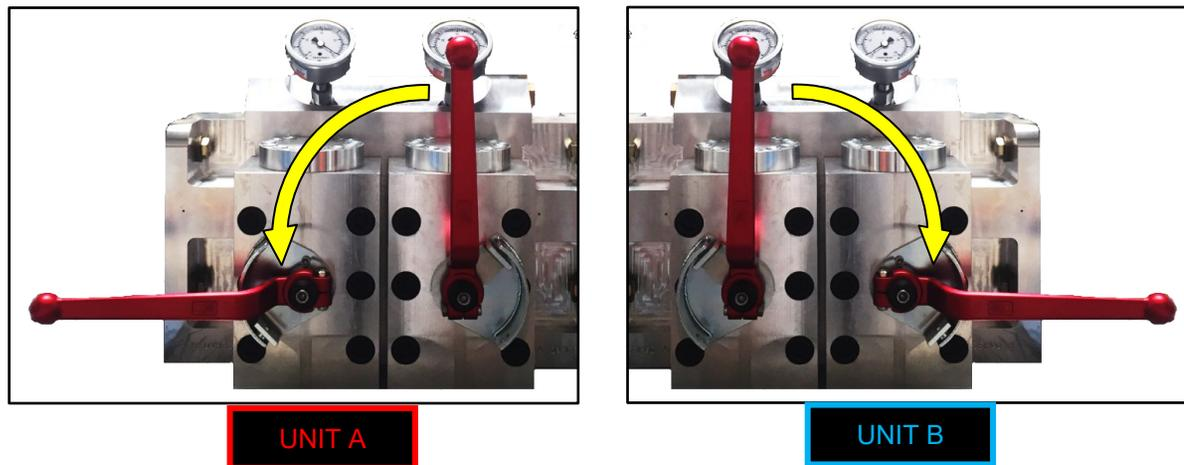

Figure 3-12. VariStroke Isolation Valves in Horizontal Position
9. Adjust the valve locking bracket. Set valve crank in the horizontal position (Figure 3-12).